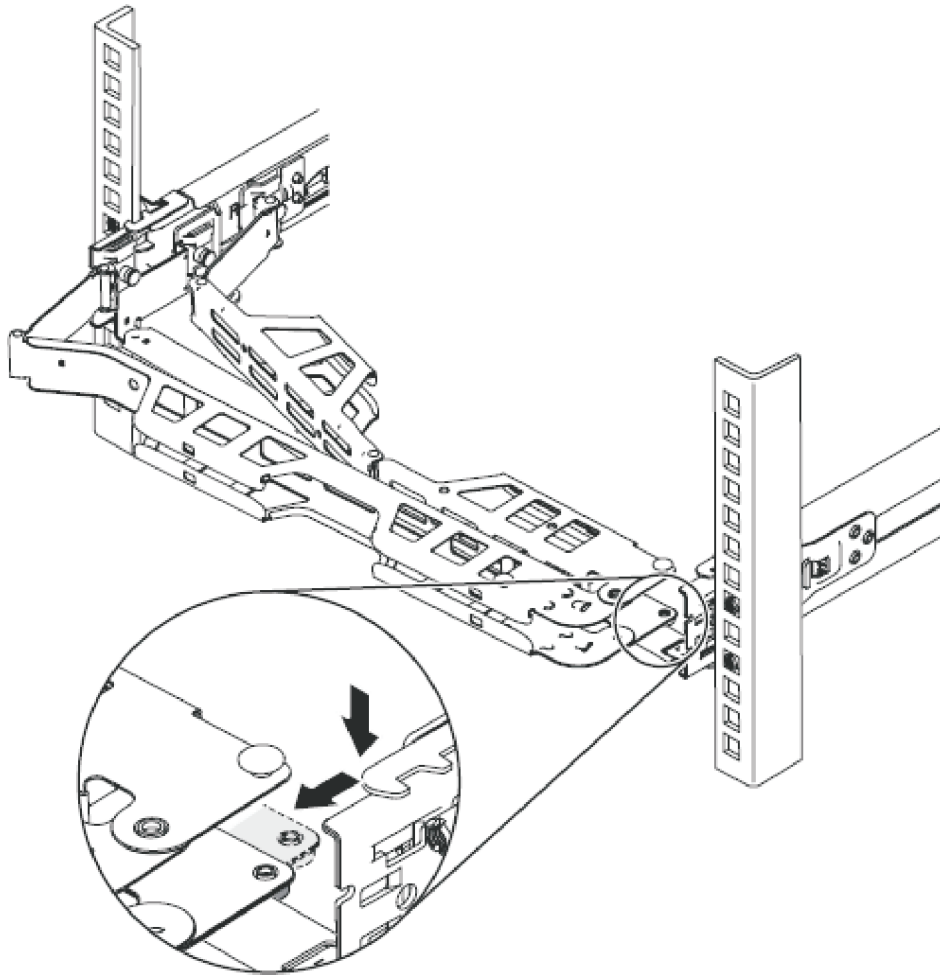

Figure 28. Adjusting the location of the cable-management arm
3. Adjust the location of the cable management arm, as shown in Figure 28 on page 29.